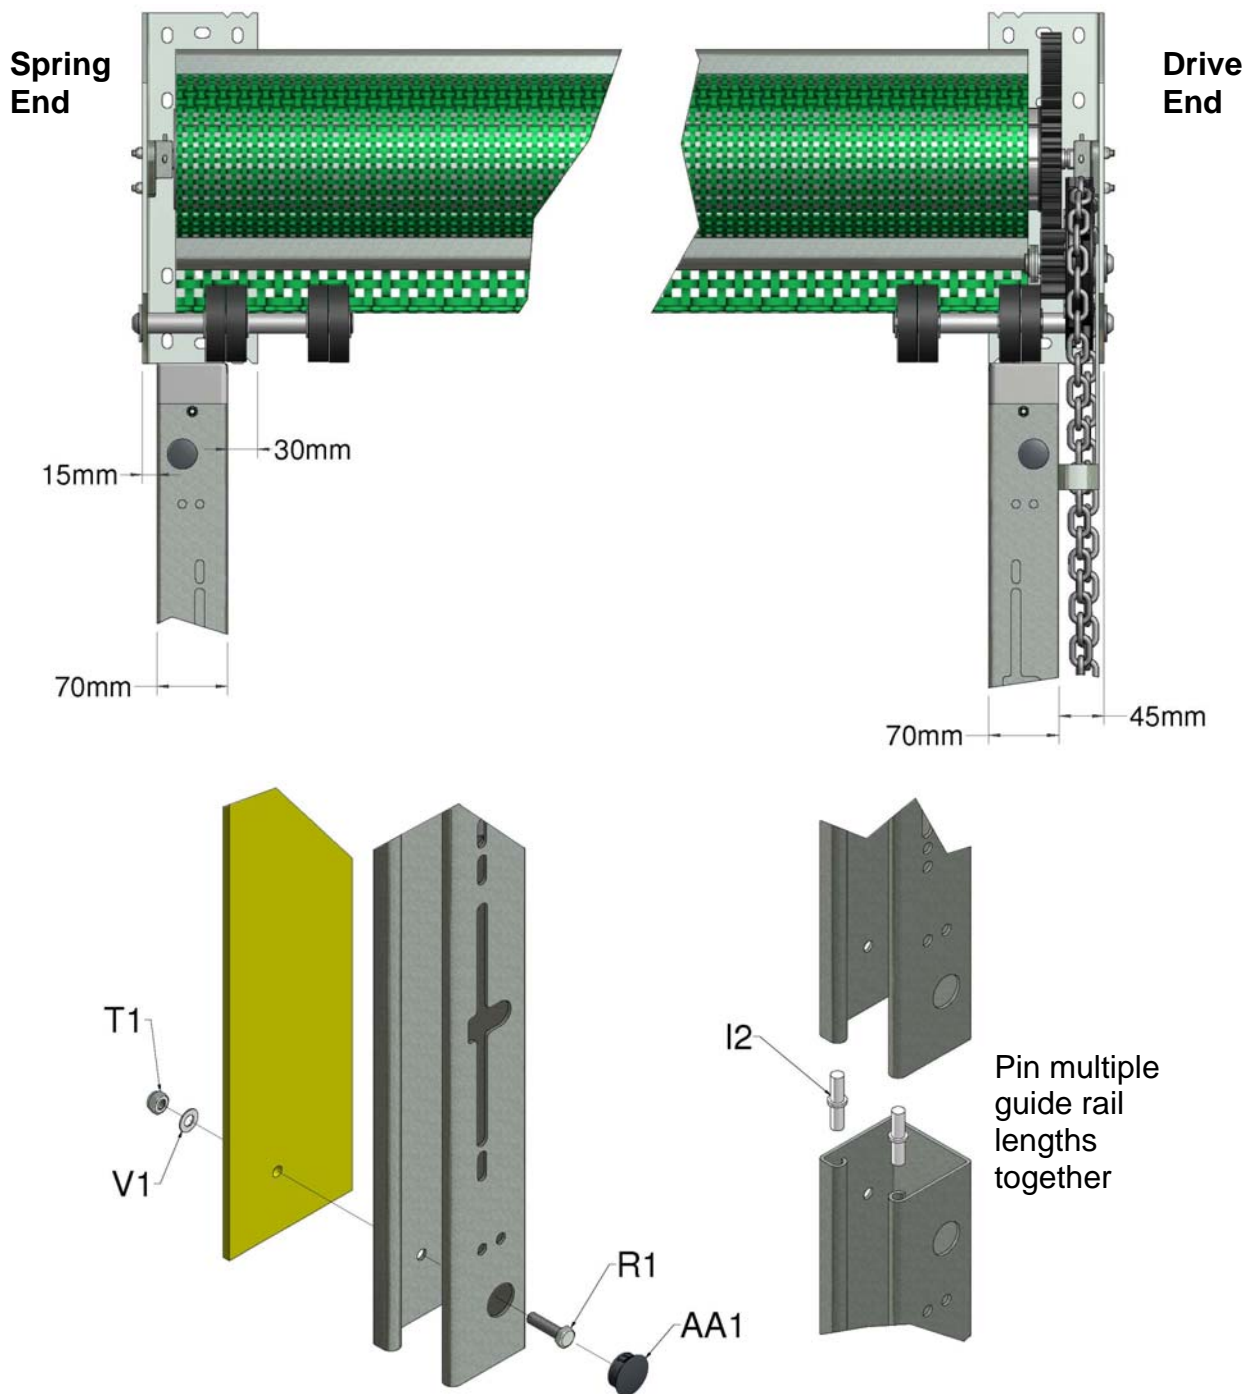

Figure 11, Bolting of Guide Rail and Joining of Guide Rail to Wall
10. Fit the guide rails to the building as shown in Figure 11 with M8 fixings using the pre-punched holes at 100cm centres. If the rails are supplied in part lengths, align each section with the joining pins (I2) supplied (Figure 11).